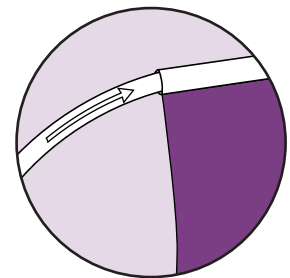

Fig 3.
3. Slide the sleeve of the flag over the curved tube and down onto the main pole. (see fig3)